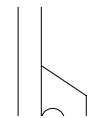

Figure 3
- Shall have reinforcing ribs. The bottom of the door shall have 2 injection molded lugs with slots of the proper width and depth to fit the base door opening. (Fig. 3)